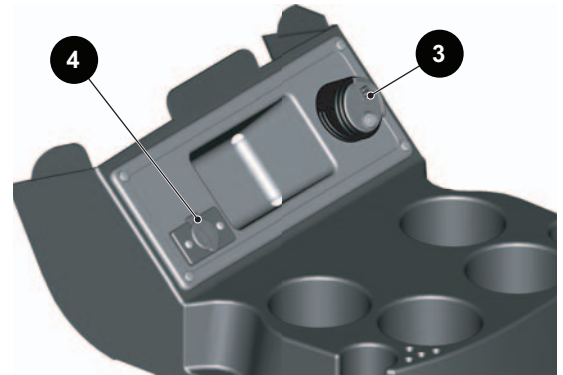

Figure 4 Center Compartment
USB Port (3) is located to the right of the center compartment (Figure 4).
A 12-Volt power outlet (4) is located to the left of the center compartment. The outlet supplies continuous power for any accessories that have a 12-volt plug (Figure 4).